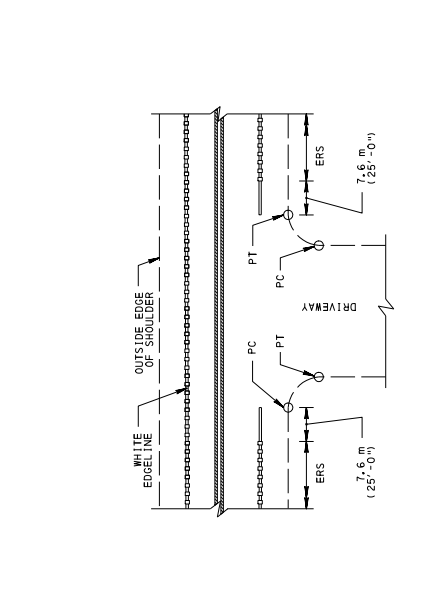
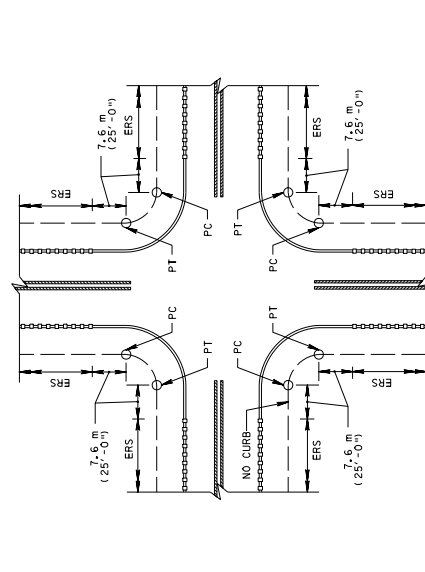

FIGURE 5
FIGURE 6
- ERS ARE TO BE BROKEN FOR INTERSECTIONS (SEE FIGURE 5), ALSO JOINTS AND DRIVEWAYS (SEE FIGURE 6).